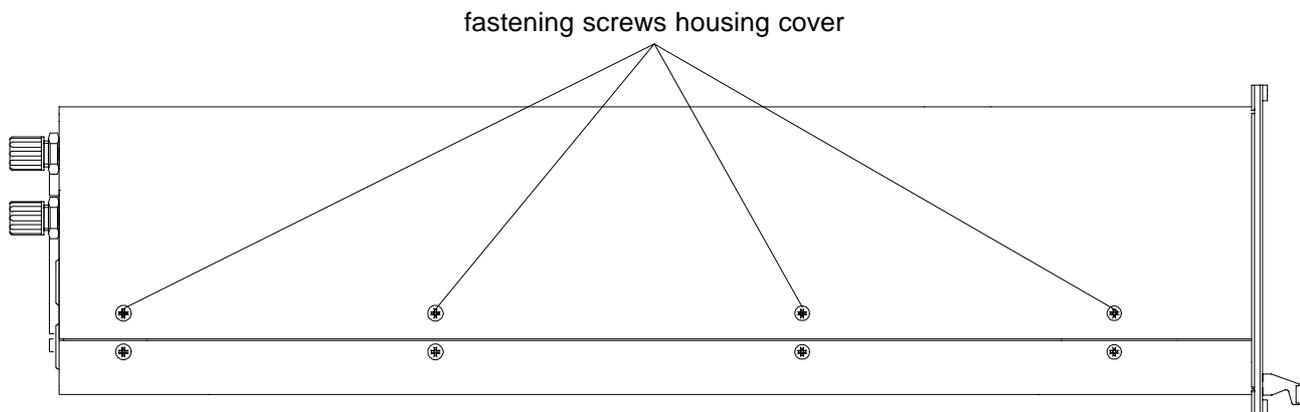

Fig. 15-2: BINOS E (1/2 19" housing)
- Unscrew the respective fastening screws at both housing sides (Fig. 15-2)